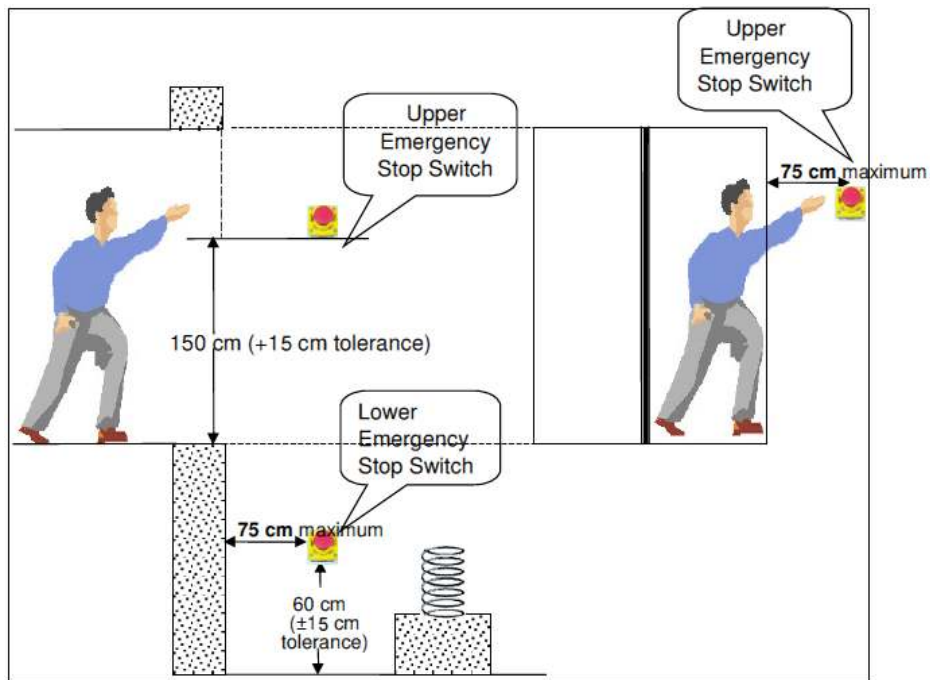

FIG. 5 LOCATIONS OF PIT EMERGENCY STOP SWITCHES
9.4.2.1 Each elevator shall have two Emergency Stop Switches in every pit as shown in Fig. 5.
9.4.2.2 The upper switch will be mounted 1.5 m above the floor level of the lowest landing. (A tolerance of +15 cm is allowed to accommodate site conditions. However, the upper switch shall not be lower than 1.5 m above the floor level of lowest landing). See Fig. 5.
9.4.2.3 The stop switch should be mounted as close to the entrance as possible, so that it is easily accessible from outside. However, it shall not any way be more than 75 cm away from landing. See Fig. 5.
9.4.2.5 The lower Pit Emergency Stop switch should be 60 cm above the pit floor level (A variation of ± 15 cm is allowed to accommodate site specific conditions). The objective of this requirement is that the mechanic should be able to actuate the switch while he is sitting on the pit floor. See Fig. 5.